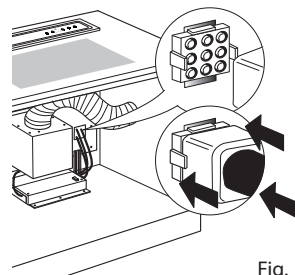

Fig. 1
- The 9-pin connection is properly inserted. (Figure 1)